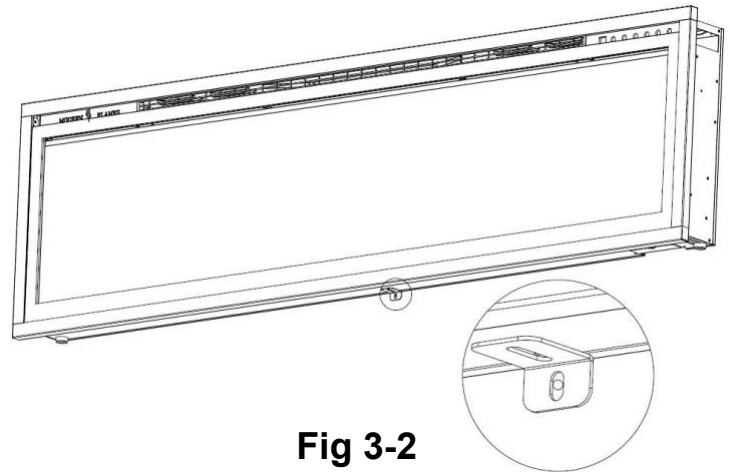

Fig 3-2
B. Using the screw previously removed, attach the L-bracket (**O**) (supplied) to the bottom of the fireplace box. (**Fig 3-2**).